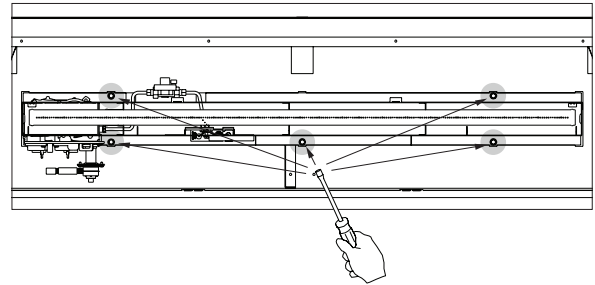

Figure 29
2. Remove burner box from fireplace. See Figures 29 and 30.